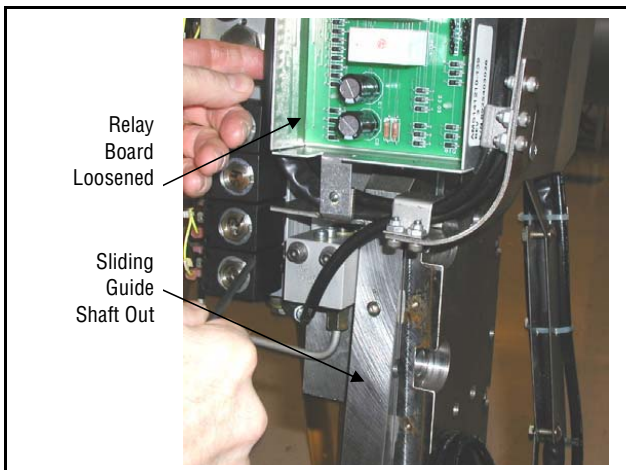

Figure 7-12. Loosening Override Relay
10. After removing seven hex head screws, left side guide shaft can be removed. In some cases override relay board must be loosened to remove guide shaft as shown in Figure 7-12.